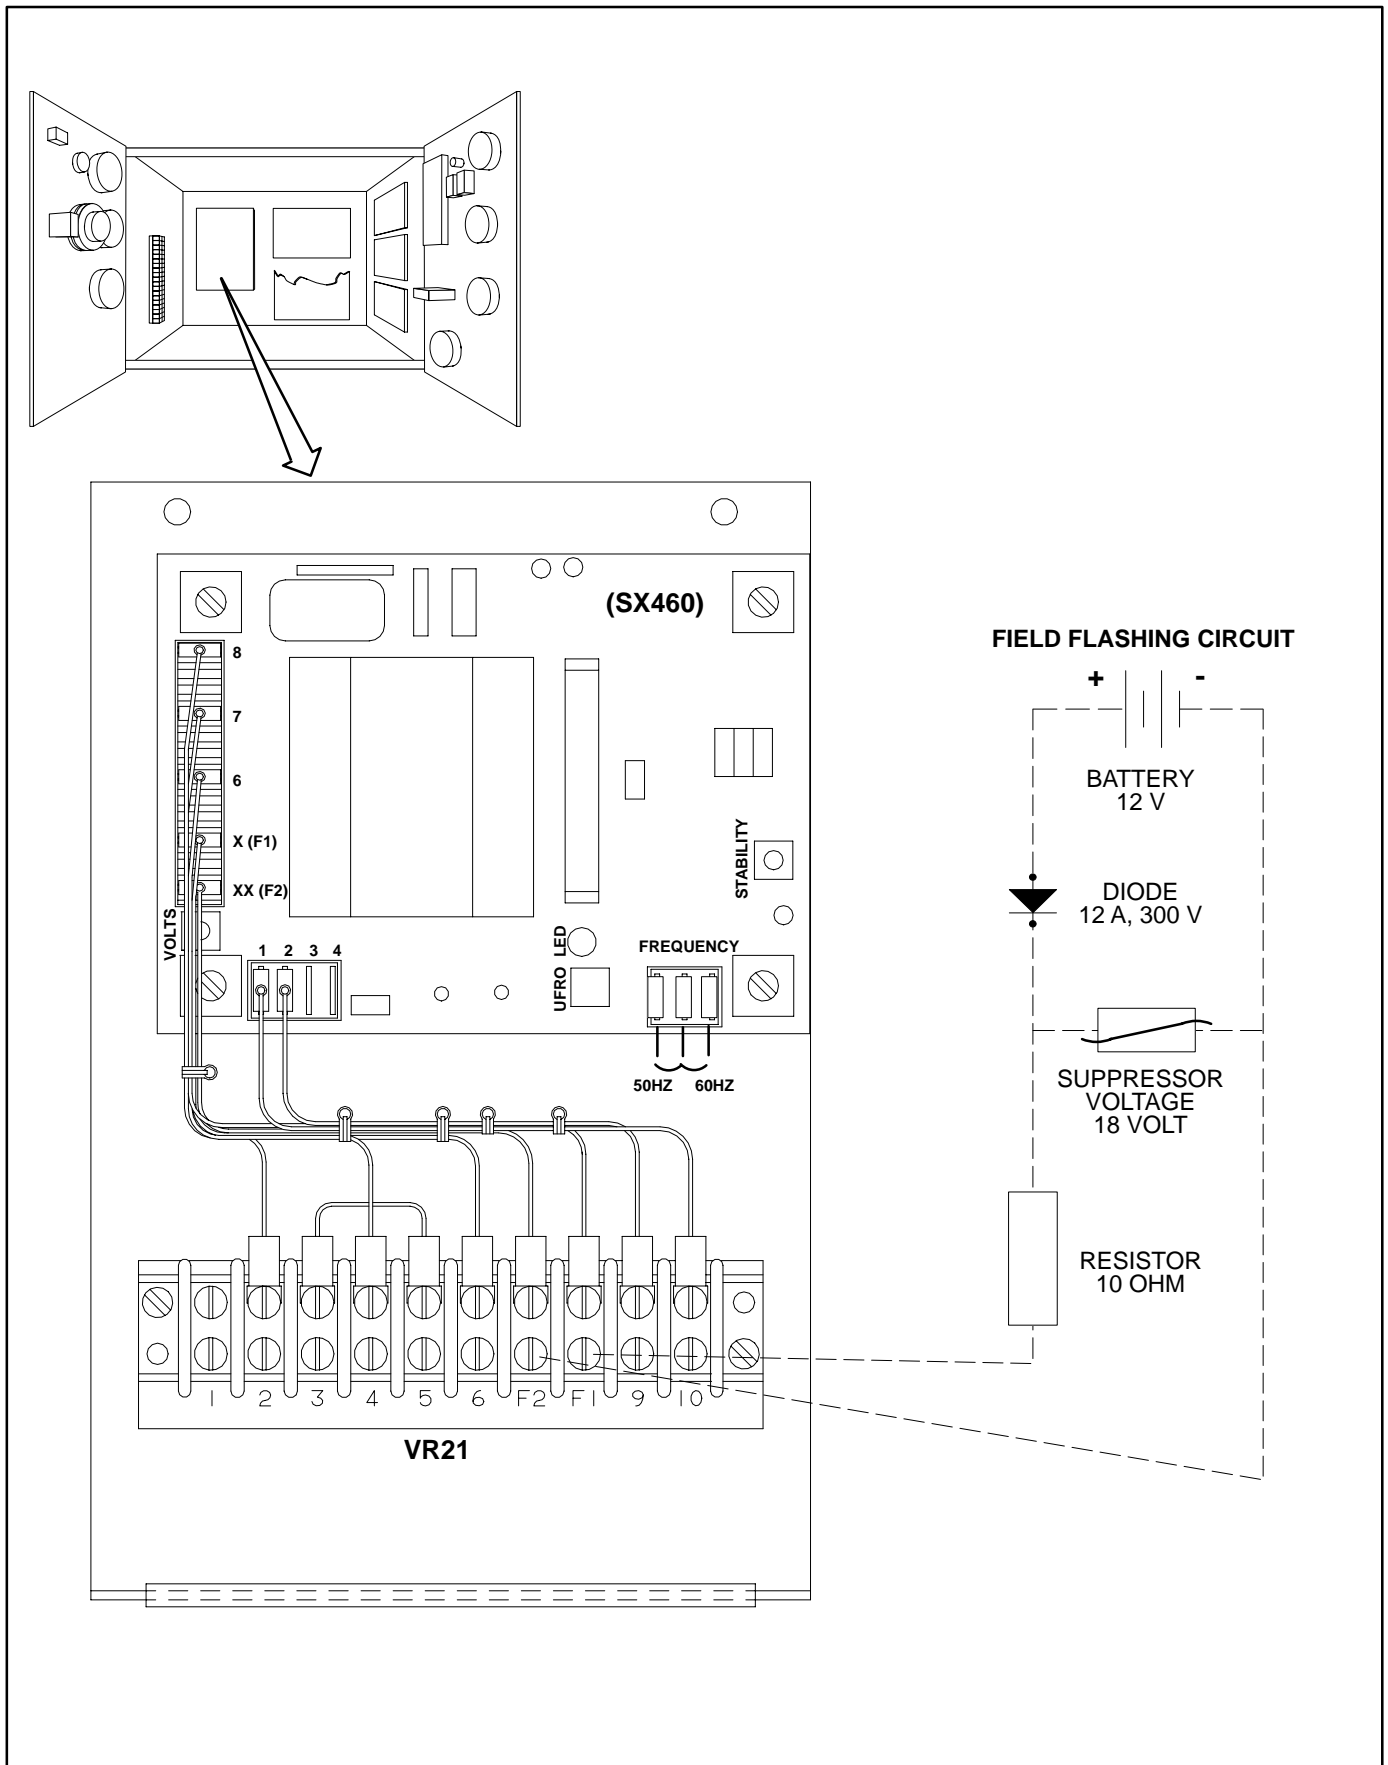

FIGURE 2-2. VOLTAGE REGULATOR WITH DETECTOR CONTROL
Figures 2-2 and 2-3 illustrate the voltage regulator and its mounting and orientation in the different types of control boxes.
1. Assemble a 12 volt battery, 10 ohm resistor, 18 volt voltage suppressor and 12 amp, 300 volt diode as shown in Figure 2-2 or 2-3.